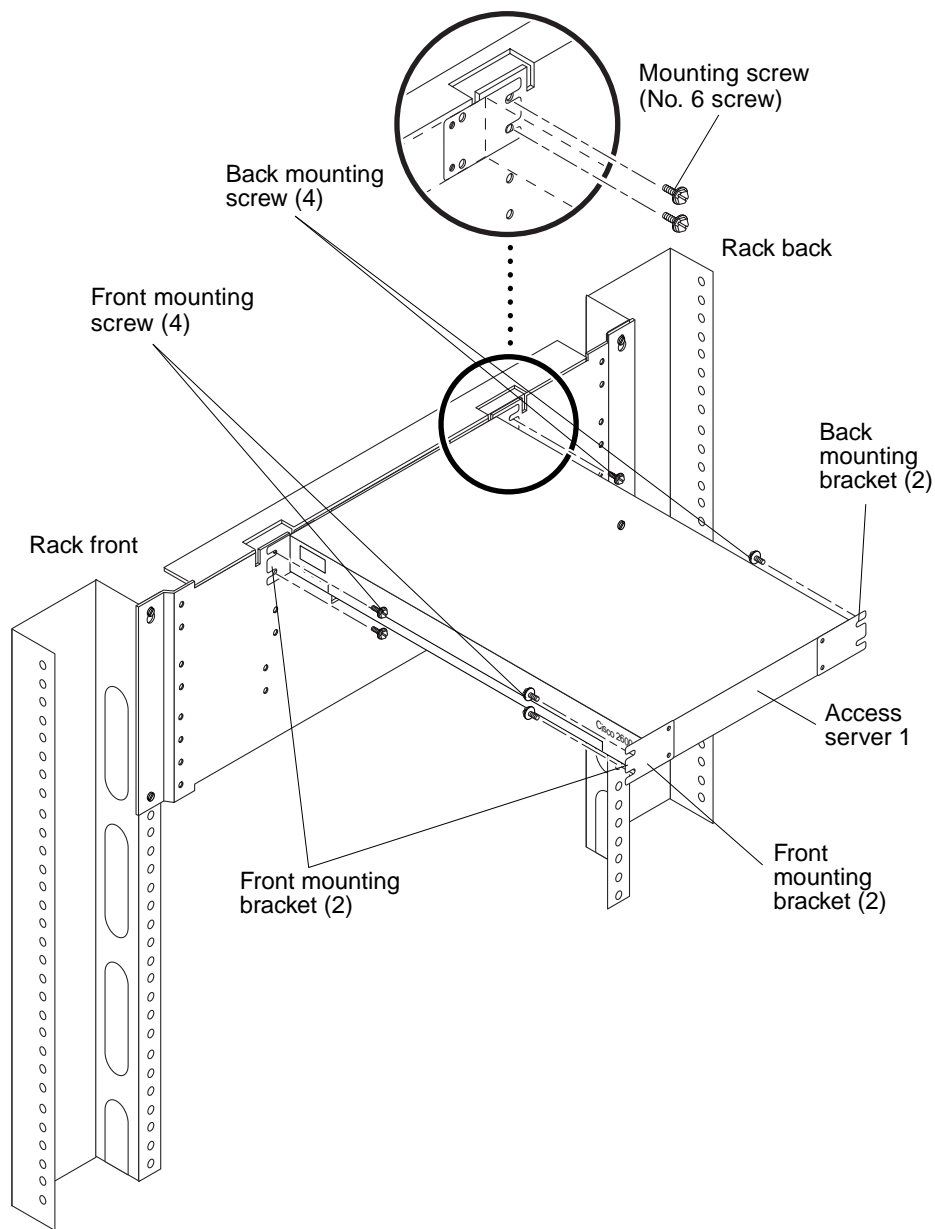

FIGURE 7 Removing and Replacing the Terminal Server
- b. **Using a No. 2 Phillips screwdriver, loosen the back mounting screws securing the terminal server chassis to the mounting plate (FIGURE 7).**
- a. **Using a No. 2 Phillips screwdriver, remove the front mounting screws securing the terminal server chassis to the mounting plate (FIGURE 7).**
3. From the front of the rack (FIGURE 7):
4. From the back of the rack (FIGURE 7):